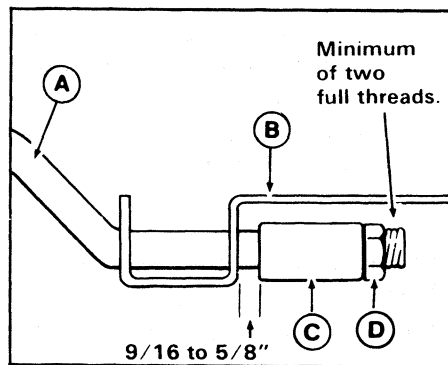

Figure 28. Brake Adjustment
4. Locate the brake band (figure 28) which is located to the inside of left-rear tire.
6. Measure the gap between the spacer and the brake band (figure 28). The gap should measure between 9/16 inch and 5/8 inch (14 to 15 mm). If not, loosen or tighten the brake rod nut (D) to achieve measurement. For safety, a maximum of two full threads must extend thru the nut.